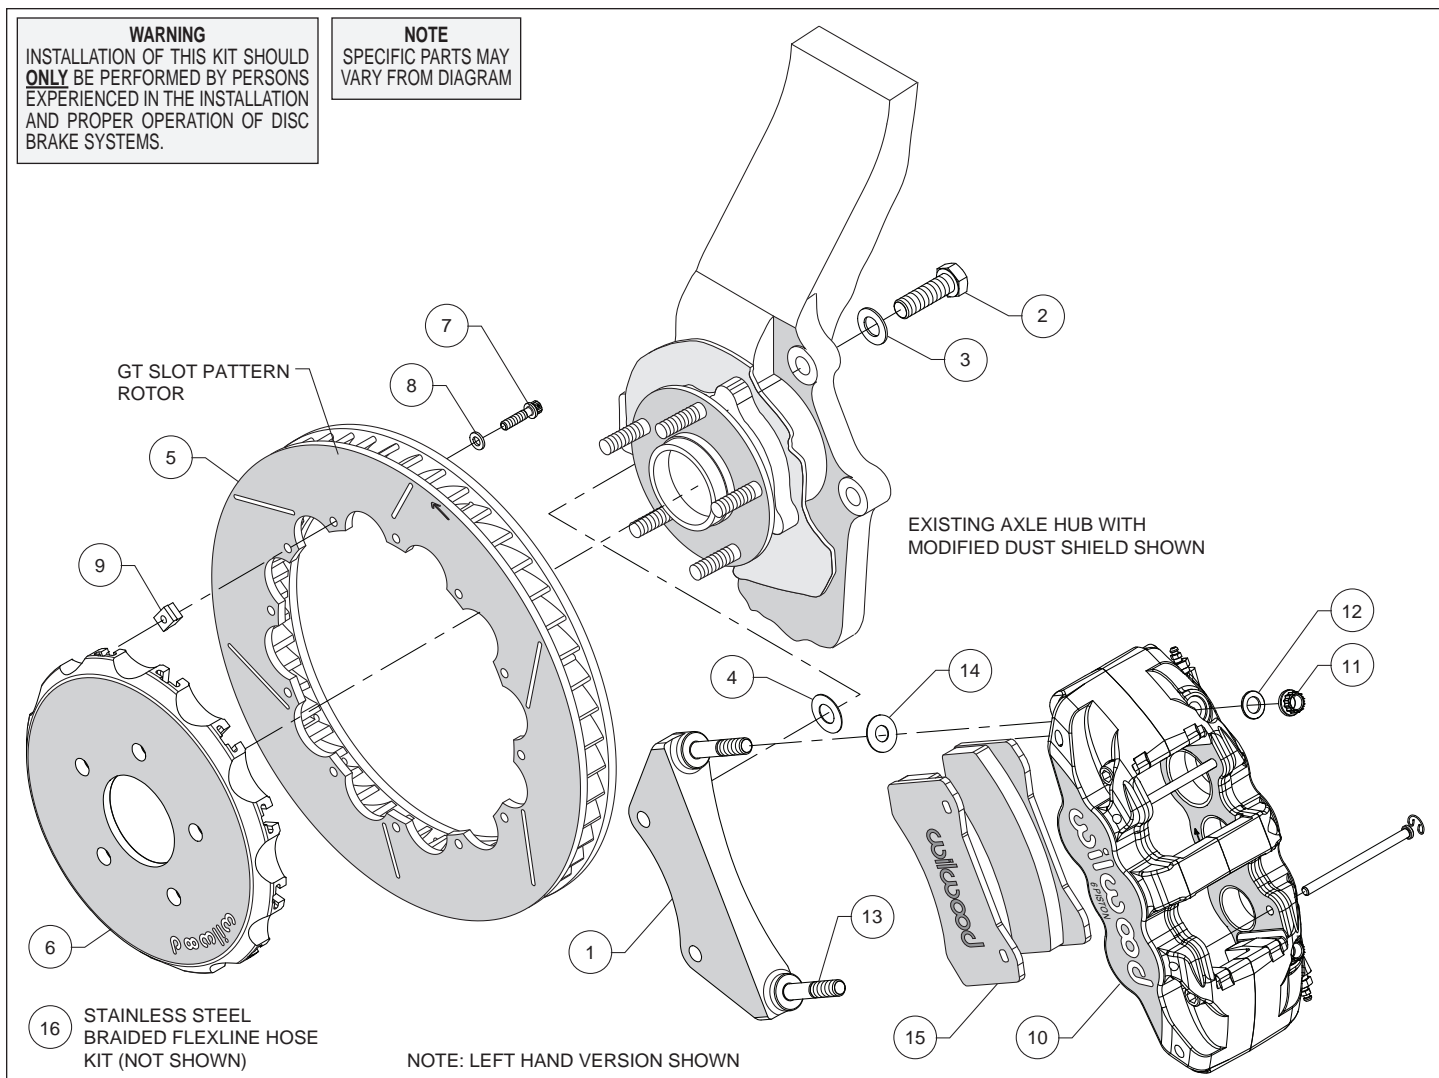
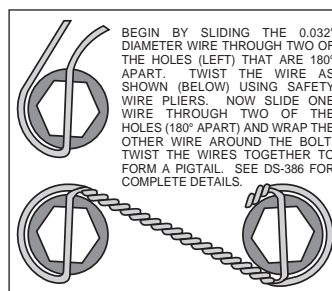

Figure 1. Typical Installation Configuration
Figure 3. Safety Wire Diagram
**Assembly Instructions** (numbers in parenthesis refer to the parts list and Figure 1 on the preceding pages):
- The caliper mount bracket (1) should initially be installed with clean, dry threads on the mounting bolts. Orient the bracket as shown in Figure 1 and Photo 2, and install using bolts (2) and washers (3). Initially place one .029 thick shim (4) on each bolt between the bracket and upright, Figure 1. Temporarily tighten the mounting bolts. **NOTE:** The bracket must fit squarely against the mounting points on the upright. Inspect for interference from casting irregularities, machining ridges, burrs, etc. Later, after the caliper alignment has been checked, the mount bolts will be secured using red *Loctite*® 271.
- Orient the rotor (5) and the hat (6) as shown in Figure 1 and Photo 3. Attach rotor to hat using bolts (7), washers (8), and t-nuts (9), Figure 1. Follow additional instructions included with the bolt kit. Using an alternating sequence, apply red *Loctite*® 271 to the threads, and torque to 120 **in-lbs**. Safety wire bolts using standard 0.032 inch diameter stainless steel safety wire as shown in Figure 3. Please refer to Wilwood's data sheet DS-386 (available at [www.wilwood.com/Pdf/DataSheets/ds386.pdf](http://www.wilwood.com/Pdf/DataSheets/ds386.pdf)) for complete safety wire installation instructions.
- NOTE:** This kit contains distinct right and left hand calipers that must be mounted in a specific direction, as described below. Lubricate the caliper mounting studs (13) with lightweight oil. Initially place one .030" thick shim (14) on each stud between the caliper and the bracket, as shown in Figure 1 and Photo 4. Mount the caliper (10) onto the bracket (1) using lock nuts (11) and washers (12), Figure 1. Ensure that the caliper is mounted so the largest pistons are at the rotor exit end of the caliper, in relation to the direction of rotor rotation. Temporarily tighten the lock nuts and view the rotor through the top opening of the caliper. The rotor should be centered in the caliper, Photo 5. If not, adjust by adding or subtracting shims (4) between the bracket and the upright. Always use the same amount of shims on each of the two mounting bolts. Once the caliper alignment is correct, remove the bracket mounting bolts (2) one at a time, apply red *Loctite*® 271 to the threads, and torque to 77 ft-lbs.
- Remove the two pad retaining pins from the caliper (10) by carefully popping out the pin retaining clips and sliding out the pins. Insert the brake pads (15) into the caliper from the bottom, Figure 1 and Photo 6. With the friction material facing the rotor, secure the brake pads in place with the pad retaining pins and clips, Photo 7. Reinstall the caliper (10) onto the caliper mounting bracket (1) and temporarily tighten the lock nuts (11). Check that the top of the brake pad is flush with the outside diameter of the rotor, Photo 8. If not, adjust by adding or subtracting shims (14) between the caliper and the bracket. After the caliper pad height is set, torque the caliper lock nuts (11) to 47 ft-lb.